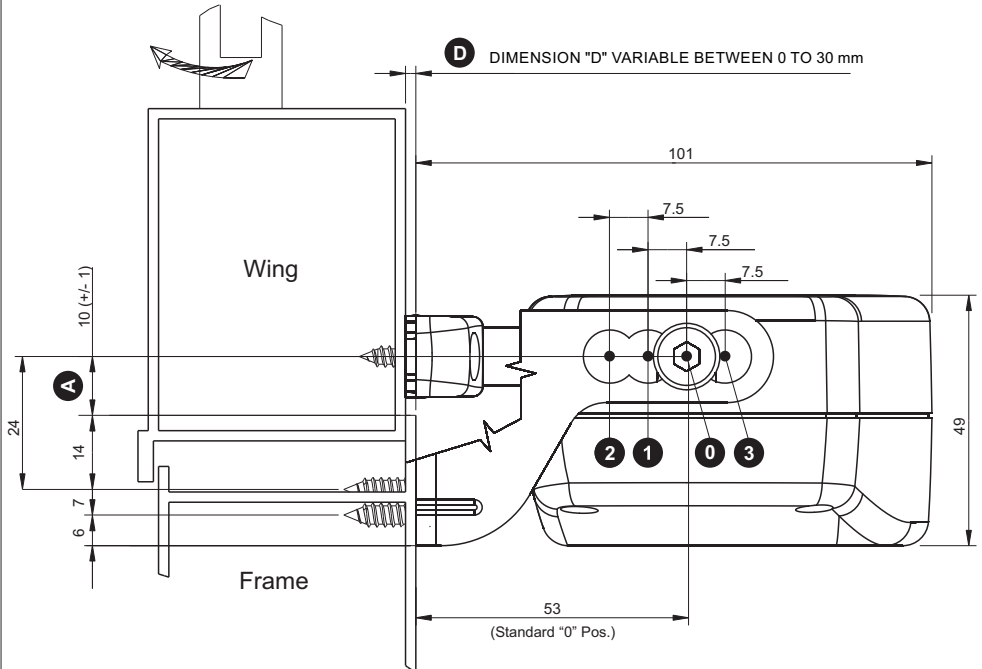

Fig. 7b Dimensions in mm
- 6) **Fig.27**- Tighten with the two standard supplied screws (**Ref. 1**) the actuator on the bracket connecting it to the window frame in the position "0" (**see Fig. 7b**) and unscrew the chain adjustment end screw;
- 7) **Fig. 28**- Select the position of the actuator with reference to the bracket connecting it to the window frame (**see Fig. 7b**) and connect the chain end to the bottom hung bracket;